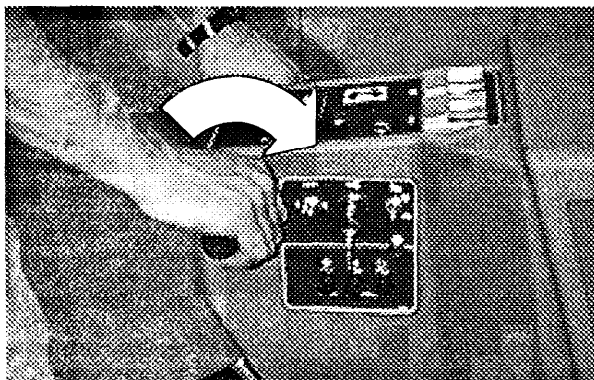

FIG. 22.
7. Twist control grips forward to begin burnishing. Slow speed switch position only offers one speed. Fast speed switch position offers a variable speed. Twist grips all the way forward for maximum speed. (Figure 22)